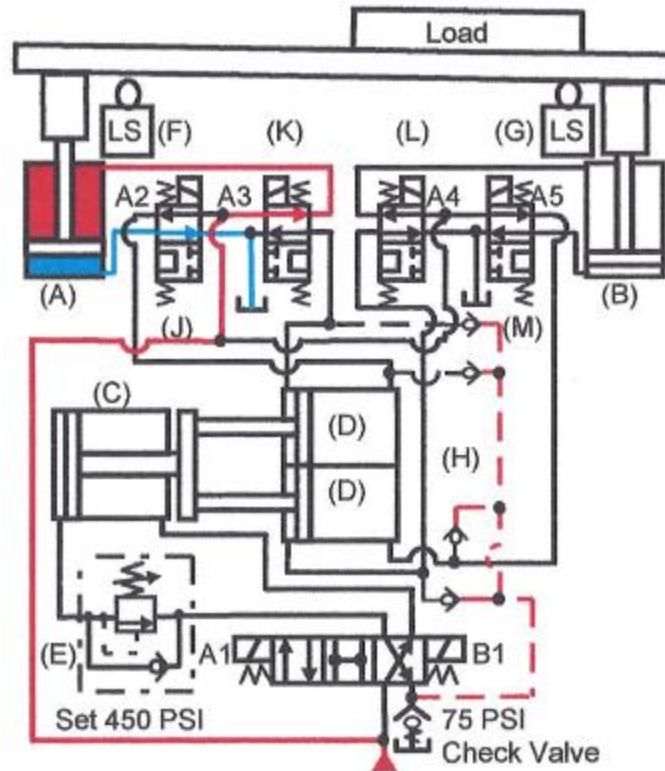

Figure 22-32. Master-and-slave-cylinder synchronizing circuit. Solenoids B1, A2, A3, A4, and A5 energized, leveling.
If the working cylinders get out of synchronization, the circuit diagram in Figure 22-32 shows how they level. While solenoid B1 on the 4-way directional valve stays shifted, energize solenoids A2 through A5 on directional valves (J) through (M). This directs pump oil to the rod sides of cylinders (A), (B) and (C), and to the cap sides of both (D) cylinders. At the same time, oil from the cap sides of cylinders (A), (B) and (C) and the rod sides of both cylinders (D) flows to tank. In this condition, the pump forces all cylinders to their home positions, ready for the next cycle.